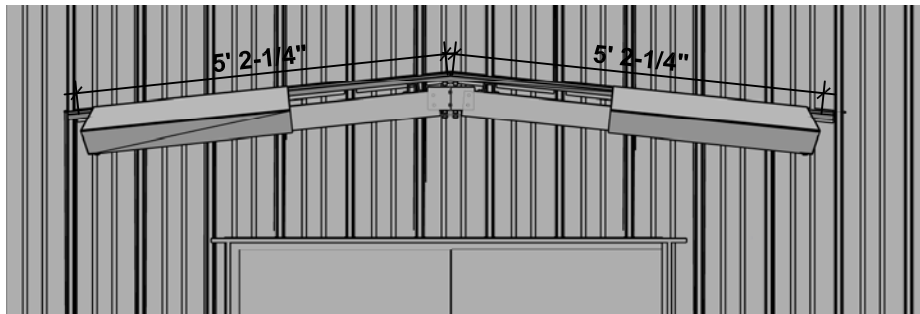

FIGURE 17
4. Apply another strip of Tape Sealant on the outer most major rib of the roof sheet. Place the Rake Trim Ends in place as shown in **Figure 17**.